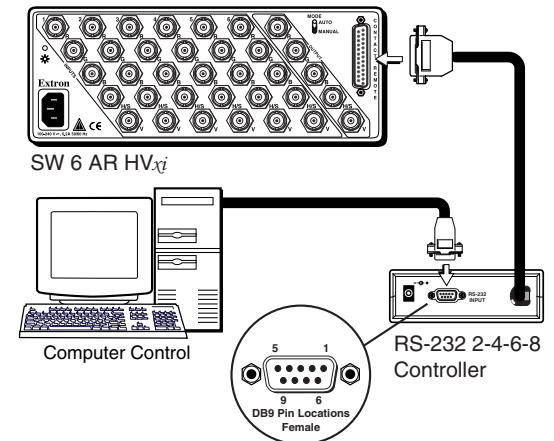

Figure 26 — RS-232 2-4-6-8 adapter
1. Connect the RS-232 cable from the PC serial port to the RS-232 2-4-6-8 adapter's RS-232 input connector (figure 26).